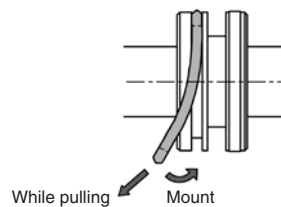

Fig. 5 Installation of piston seal
- ③7 Rod seal A: Mount the seal in the correct direction.
- ③9 Piston seal: Mount the seal while stretching it as Fig. 5.